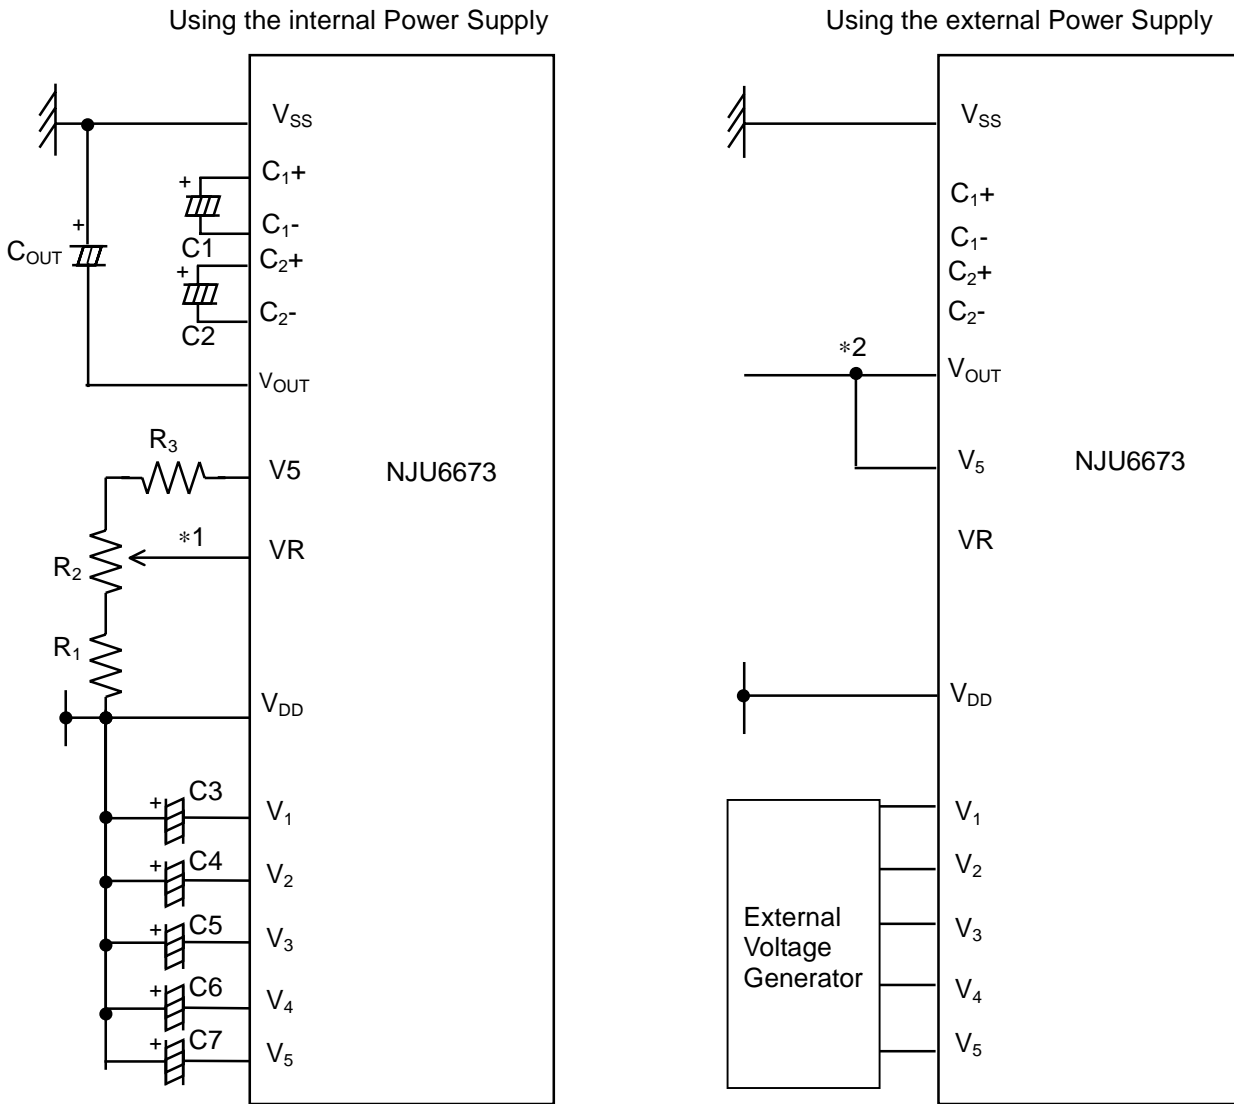

Fig.4
*1 The set up period of internal power supply On depends on the step up capacitors, voltage stabilizer capacitors, V_{DD} and V_{LCD} . Therefore it requires the actual evaluation using the LCD module to get the correct time.(Refer to the (3-4) Fig.4)
The external capacitors to V_1 to V_5 for Bias voltage stabilization may be removed in use of small size LCD panel. The equivalent load of LCD panel may be changed depending on display patterns. Therefore, it require display quality check on various display patterns actually without external capacitors. If the display quality is not so good, external capacitors should connects as show in Fig. 4. (If no need external capacitors as result of experiment, the application patterns (wiring) should be prepared for recovery.)